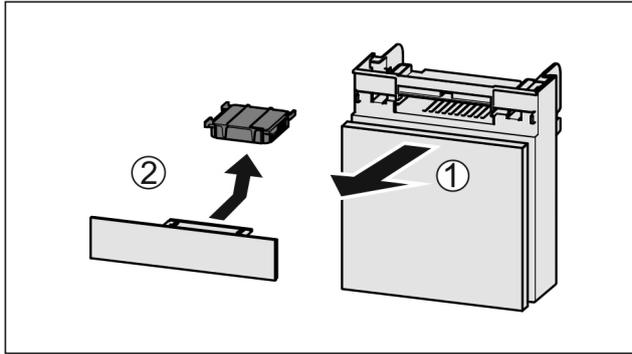

Fig. 69
- ▶ Pull out the compartment Fig. 69 (1).
- ▶ Remove the carbon filter Fig. 69 (2).